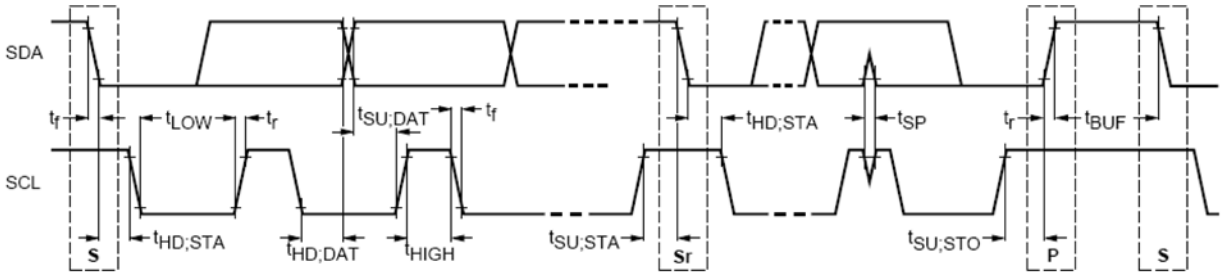
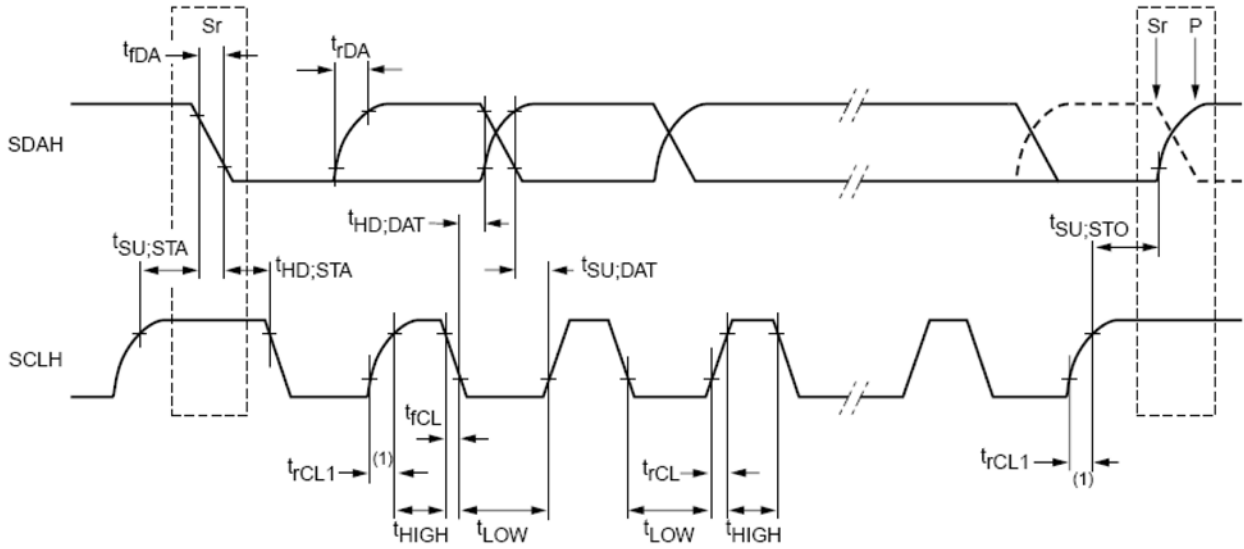

Figure 2. AC Characteristics, Standard and Fast Modes
Figure 3. AC Characteristics, High Speed Mode
4. Refer to Figure 2 and Figure 3 for more information on AC characteristics.
- Refer to Figure 2 and Figure 3 for more information on AC characteristics.